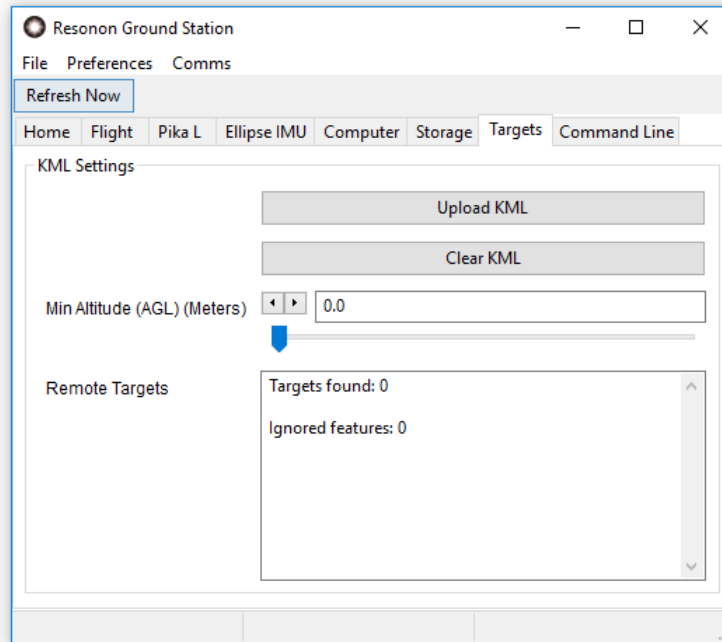

Fig. 3.15: The Targets Tab
The **Target Tab** (Fig. 3.15) allows the operator to create, save, and upload target regions to the flight computer. These Target regions define the areas over which the system will record data. When the aircraft enters a defined target area and is above the minimum altitude requirement, data recording is automatically started and ends when the aircraft leaves the target area. When data is recorded in a target region the name of the target region is reflected in the data folder name.
6. Upload the KML target file using to the flight computer using the ground station **Upload KML** button shown in Fig. 3.15. A file dialog will be presented allowing you to select your saved KML file.
7. Examine the **Remote Targets** section of the targets tab (Fig. 3.15). Verify each target you defined is listed under **Targets found**. If a target is not shown, or if a target is listed under **Ignored features**, something is wrong with the uploaded target file. Fix it in Google Earth and try again. Features may be ignored if they were created as